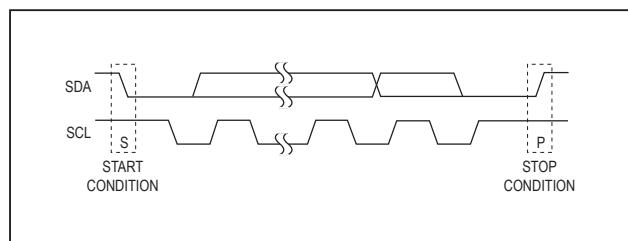

Figure 2. Start and Stop Conditions
Each transmission consists of a START condition sent by a master, followed by the MAX7326's 7-bit slave addresses plus R/W bits, 1 or more data bytes, and finally a STOP condition (Figure 2).
Both SCL and SDA remain high when the interface is not busy. A master signals the beginning of a transmission with a START (S) condition by transitioning SDA from high to low while SCL is high. When the master has finished communicating with the slave, the master issues a STOP (P) condition by transitioning SDA from low to high while SCL is high. The bus is then free for another transmission (Figure 2).